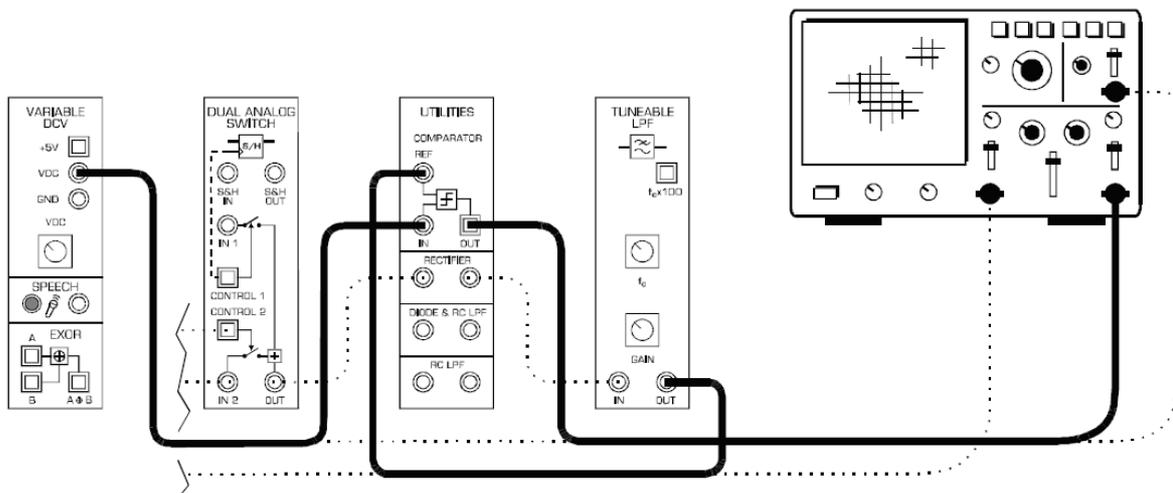

Figure 8: the set-up for a digital signal restoration
1. Modify the set-up as shown in Figure 8.